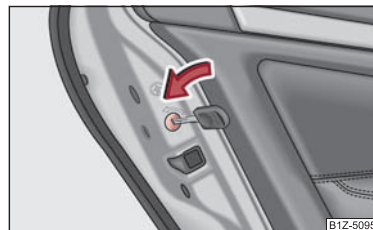

Fig. 24 Child safety locks on the rear doors
- Use the vehicle key to turn the slit in the rear door to the left in the direction of the arrow ⇒ fig. 24.